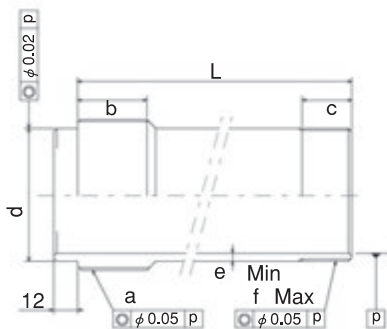

Fig.14
The dimension L in Fig.14 is determined from the distance A between the cylinder adapter and the back plate.
- Keep the dimension e and the dimension f in Fig. 14 for the draw pipe and a material with the tensile strength 380MPa (38kgf/mm²) or more must be used.